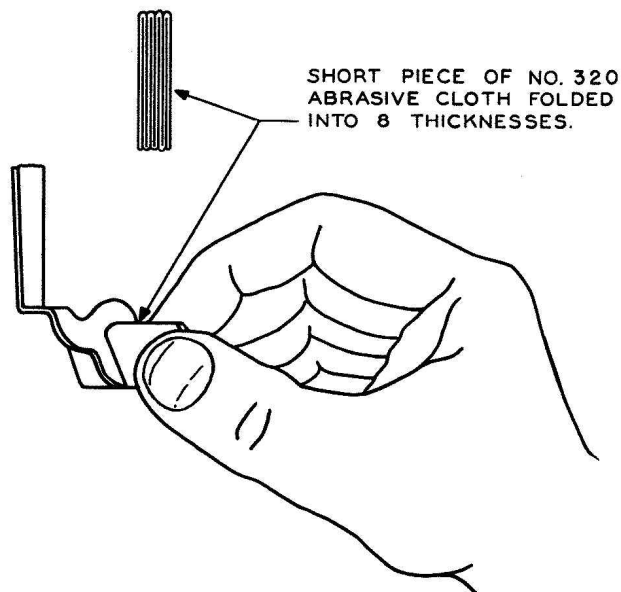

Fig. 9 — Polishing of Fork Slot
- (1) Clean and lubricate fork and vane stem as follows:
- (a) Surfaces of fork slot should be smooth. If bearing surfaces of fork are so rough that they cannot readily be made smooth, replace relay. Otherwise, smooth rough spots using No. 320 or finer abrasive cloth folded as shown in Fig. 9.
- (2) Remove magnetic particles from adjacent surfaces of armature, pole pieces, and top of magnet with rubber tape or equivalent. To remove particles: